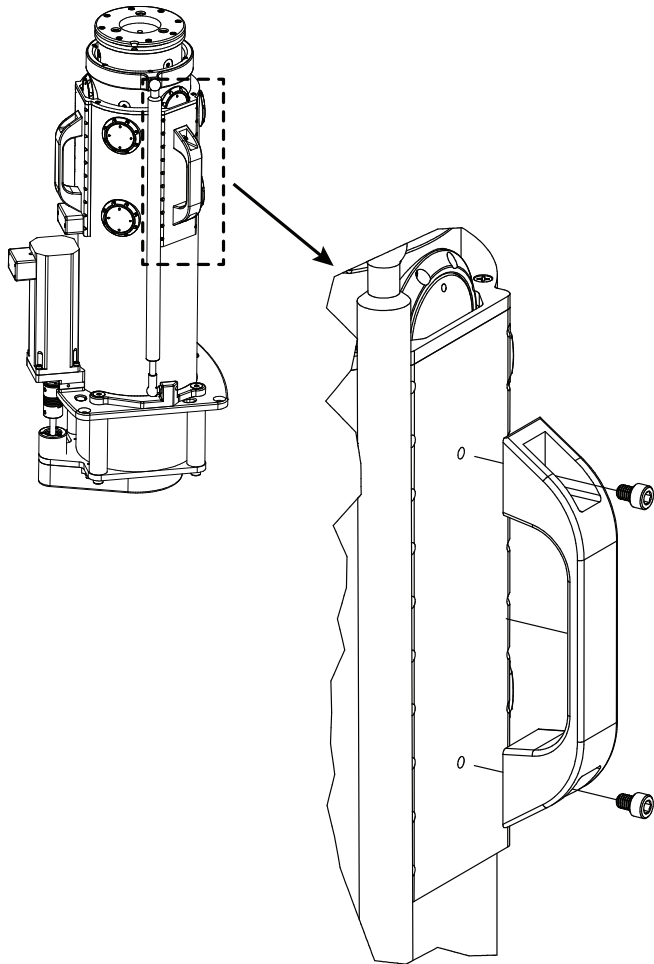

Figure 1 - Removing a Handle from the Column
1. Remove a handle from the column (Figure 1).